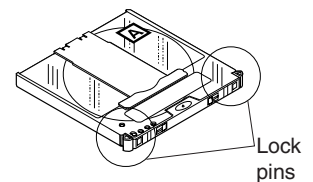

Fig. 6-1a
- 1) Release (snap off) the lock pins at the bottom left corners of sides A and B (see Fig. 6-1a). (Use a fine tipped pen to slide the lock pin in the direction of arrow ①, and then turn it in the direction of arrow ② to snap and remove it.)